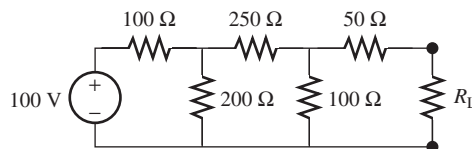

FIGURE P3.75 Circuit for Problem 3.75.
- 3.75** (A) Determine the maximum power transfer for the circuit shown in Figure P3.75.